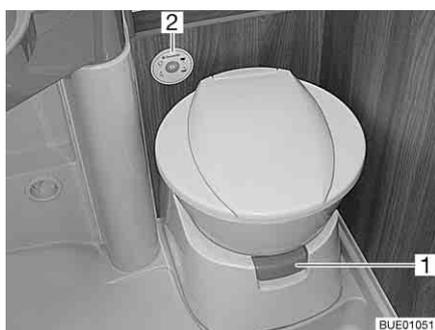
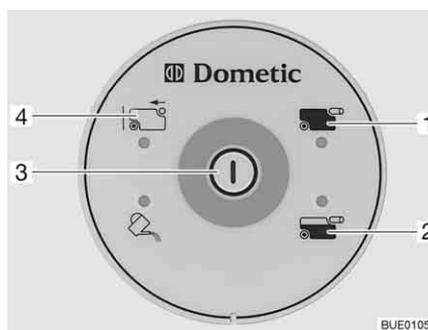

Fig. 277 Toilet bowl with control and operating unit
Fig. 278 Control and operating unit toilet
Let some water run into the toilet bowl before using the toilet. In order to do so press the flush button (Fig. 278,3) on the control and operating unit (Fig. 277,2).
- Before flushing open the sliding trap of the toilet. For this pull out the slide lever (Fig. 277,1).
- For flushing, press the flush button (Fig. 278,3).
The indicator lamp (Fig. 278,2) goes on whenever the sewage tank is filled up to 3/4.
The indicator lamp (Fig. 278,1) goes on whenever the sewage tank has to be emptied.
- Push the slide lever (Fig. 277,1) in. The sliding trap is closed. To empty, the sliding trap of the toilet **must** be closed.
- Tilt the sewage tank slightly and remove fully. The display "Sewage tank removed" (Fig. 278,4) lights up on the control and operating unit.